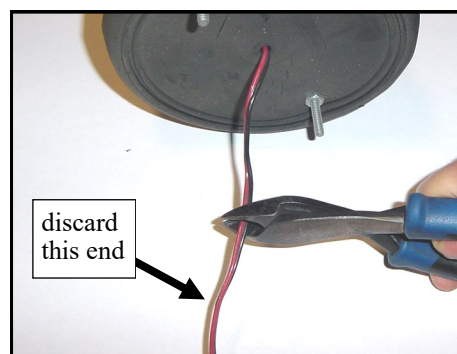

Fig. 2.1 (cut strobe light wires)
2.1 Per fig. 2.1, cut the long wires coming out of the strobe light so they are only 6" long. Strip the newly cut ends 1/2" back.